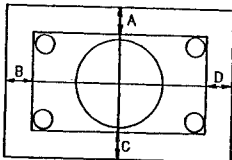

Figure 1
4. Adjust the voltage level of waveform A point to one of waveform B point with VR103. (Refer to Fig. 1)
5. Adjust the voltage level of waveform C point to 4.5V with VR105. (Refer to Fig. 1)
2. Adjust the VR408 and VR403 so that the B,D and A,C become $12 \text{ mm} \pm 3 \text{ mm}$ each other. (Refer to Fig. 1)
4. Adjust the VR406 and VR402 so that the B,D and A,C become $12 \text{ mm} \pm 3 \text{ mm}$ each other. (Refer to Fig. 1)